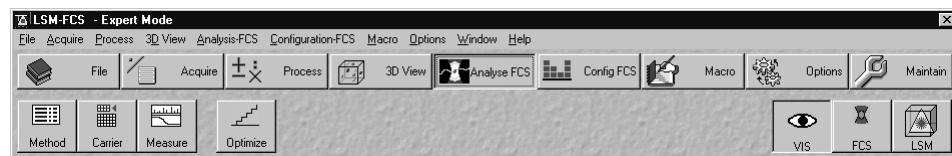
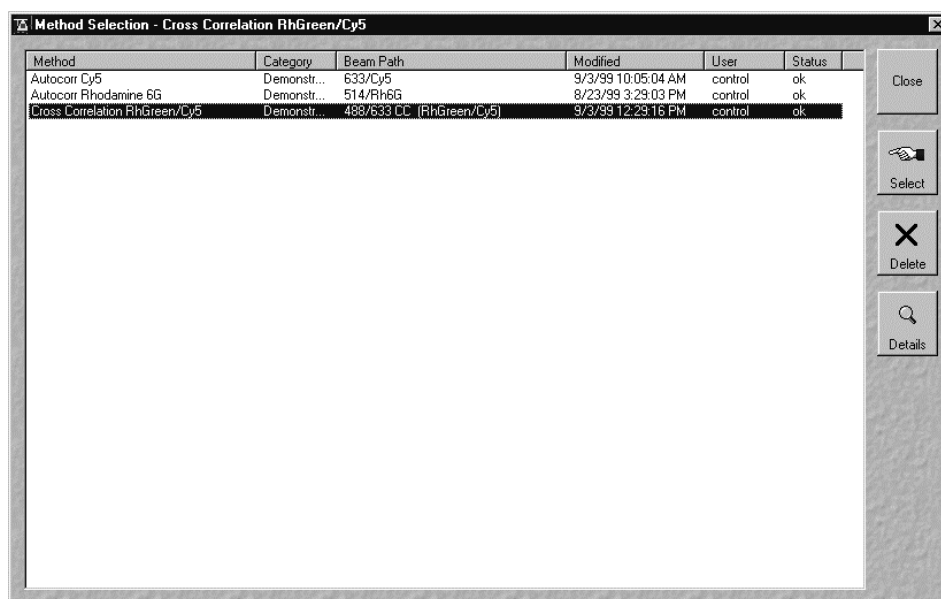
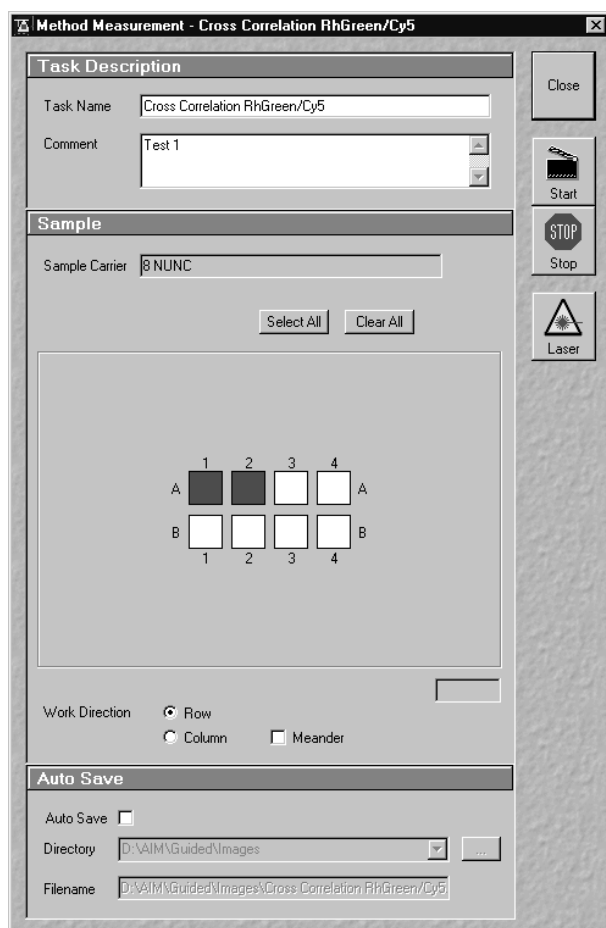

Fig. 4-22 Main menu with activated Analyse FCS subordinate toolbar
Fig. 4-26 Method Selection ... window
Fig. 4-33 Method Measurement ... window
After clicking the **Start Expert Mode** button in the **LSM-FCS Switchboard** menu, the instrument is running and the **Main** menu appears (Fig. 4-22). From this moment the instrument can be almost entirely controlled by software.
- Click on the **FCS** button on the right-hand side of the **Analyse FCS** subordinate toolbar in the **Main** menu (Fig. 4-22) to select the FCS detection head.
- Click the **Method** button in the **Analyse FCS** toolbar subordinate of the **Main** menu (Fig. 4-22). The **Method Selection ...** window will appear (Fig. 4-26).
- This is done with the **Select Carrier** button of the **Analyse FCS** toolbar subordinate of the **Main** menu (Fig. 4-22).
- Click the **Measure Method** button in the **Analyse FCS** toolbar subordinate of the **Main** menu (Fig. 4-22). The **Method Measurement ...** window will appear on the screen (Fig. 4-33). The name of the currently used method will appear in the status bar of the window.